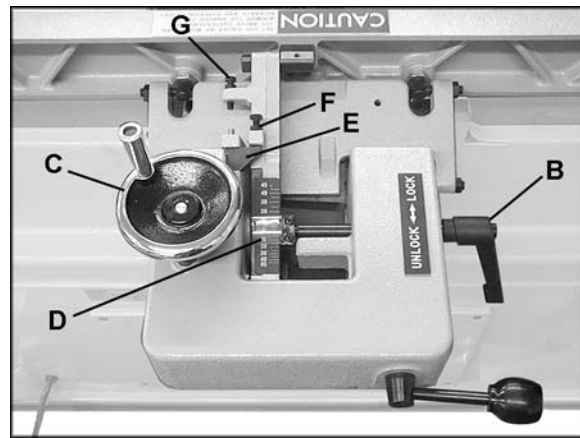
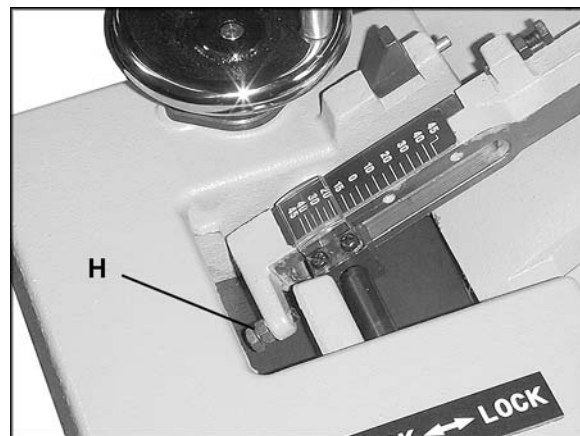

Figure 16
Figure 17
1. Loosen locking handle (B, Figure 16).
2. Flip the 90° stop block (E, Figure 16) out of the way.
3. Rotate handwheel (C, Figure 16) until the desired angle is indicated on the scale (D, Figure 16). Or you can place your beveled workpiece on the table and against the fence, and rotate the handwheel (C, Figure 16) until the angle of the fence matches the bevel of your workpiece.
4. Tighten locking handle (B, Figure 16).
**IMPORTANT:** When the tilted operation is finished and the fence is returned to 90°, do not forget to flip the 90° stop block (F, Figure 16) back to its original position.
1. The 90° stop is controlled by the screw (F, Figure 16) and the stop block (E, Figure 16).
2. Loosen the locking handle (B, Figure 16) and loosen the hex nut on the screw (F, Figure 16).
4. Move the fence until it fits flush against the angle measuring device. Turn the screw (F, Figure 16) until the screw contacts the stop block (E, Figure 16).
5. Tighten the hex nut on the screw (F, Figure 16) and the lock handle (B, Figure 16).
1. The 45° forward stop is controlled by the screw (H, Figure 17).
2. Loosen the locking handle (B, Figure 16) and loosen the hex nut on the screw (H, Figure 17).
4. Rotate the screw (H, Figure 17) until it contacts the casting in front of it.
5. Tighten the hex nut on the screw (H, Figure 17) and tighten locking handle (B, Figure 16).